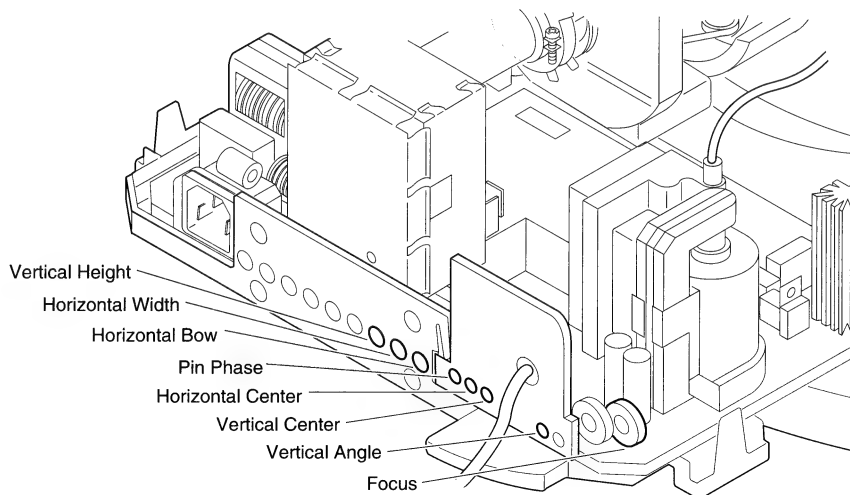

Figure 3 Geometric Adjustment Controls
2. FIGURE 3. Using the hex-head adjustment tool, turn the Horizontal Center control until the raster is centered (left to right) in the bezel.
- FIGURE 3. Using the adjustment tool, turn the Horizontal Width control until the raster is 9 1/4 inches ($\pm 1/8$ inch) or 235 mm (± 2 mm) wide.
- FIGURE 3. Using the adjustment tool, turn the Vertical Center control until the raster is centered (top to bottom) in the bezel.
- FIGURE 3. Using the adjustment tool, adjust the Vertical Height control until the raster height is 7 inches ($\pm 1/8$ inch) or 176 mm (± 2 mm). If the raster is now off-center, repeat the vertical center adjustment.
2. FIGURE 3. Adjust the Focus control until the focus test pattern is as clear as possible.
3. FIGURE 3. If the display is so distorted that you can't tell which adjustment to make, adjust the following controls: